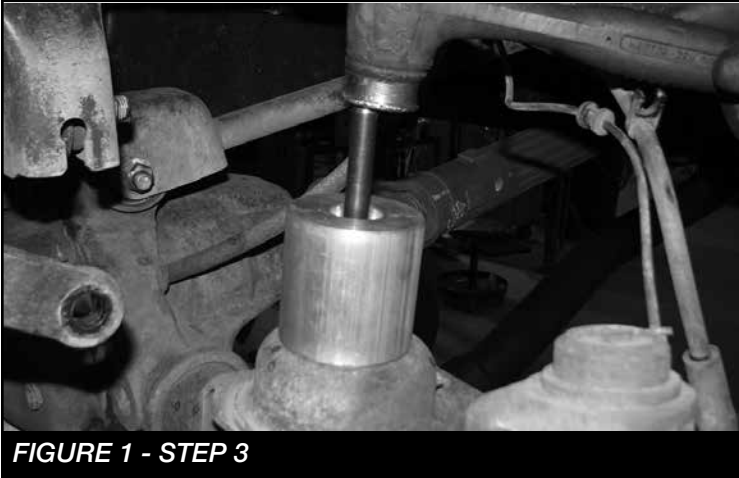

FIGURE 1 - STEP 3
3. Place the new FT50492 (Front bumpstop) onto the factory bumpstop pad. Using a center punch mark for drilling. **SEE FIGURE 1**